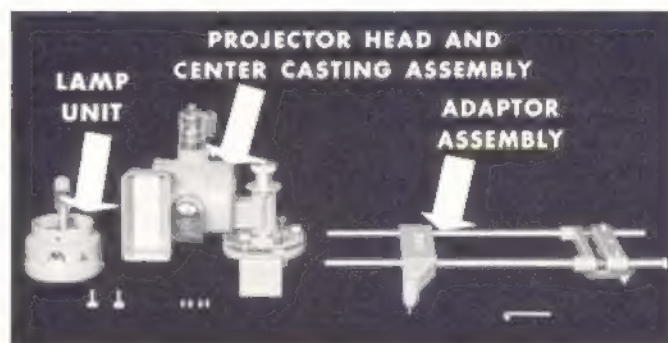

FIGURE 22
12. **ALL LENS ADJUSTMENTS MUST BE MADE AT THE FACTORY:** If needed, you may quickly obtain from the factory a replacement projector head. Remove the projector head and center casting assembly by sliding top casting off rods (remove end screw in rod) and slide center casting off. Be sure to keep pressure pins, lamp unit, top and bottom castings with rods. (See Figure 22) Ship **ONLY** projector head and center casting assembly as a unit. (Take it to your jobber who will forward it to the factory in a suitable carton well padded and braced.)